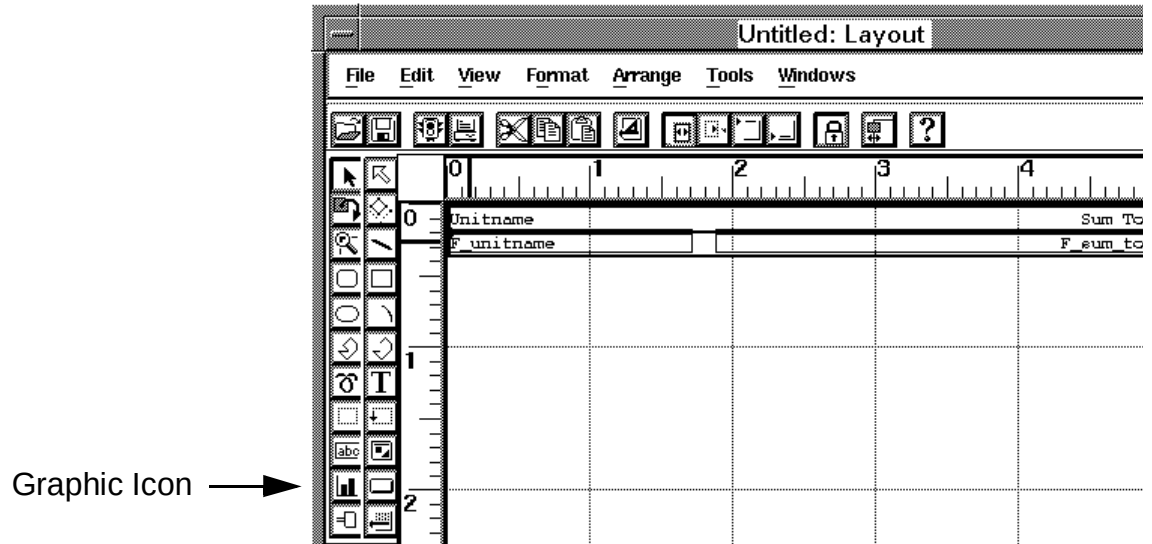

Figure 3-74. Graphic Icon in Report Layout Editor
9. Click on the Graphic icon, Figure 3-74, and outline the area in the editor where you want to display the chart.